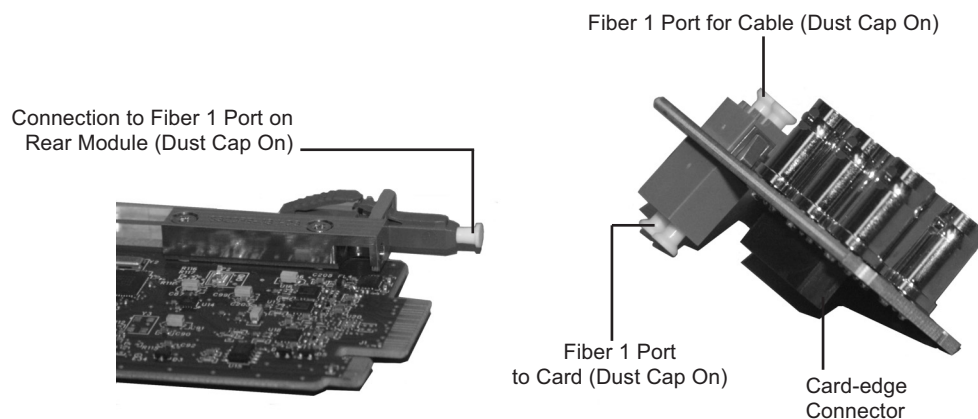
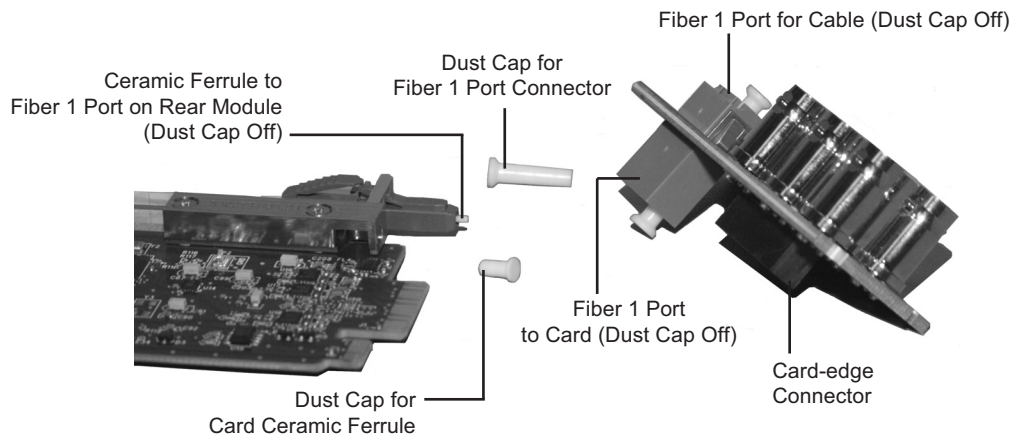

Figure 2.1 Card Connectors with Dust Caps Installed — 8320AR-044 Rear Module Shown
Figure 2.3 Card Connectors with Dust Caps Removed — 8320AR-044 Rear Module Shown
- Connectors must always be inserted into a device or have a dust cap on. Refer to **Figure 2.1** for dust cap locations.
3. Remove the dust caps from the fiber ports on the Rear Module that face the interior of the frame. Refer to **Figure 2.1** and **Figure 2.3** for dust cap locations.
- Refer to **Figure 2.1** and **Figure 2.3** for dust cap locations.